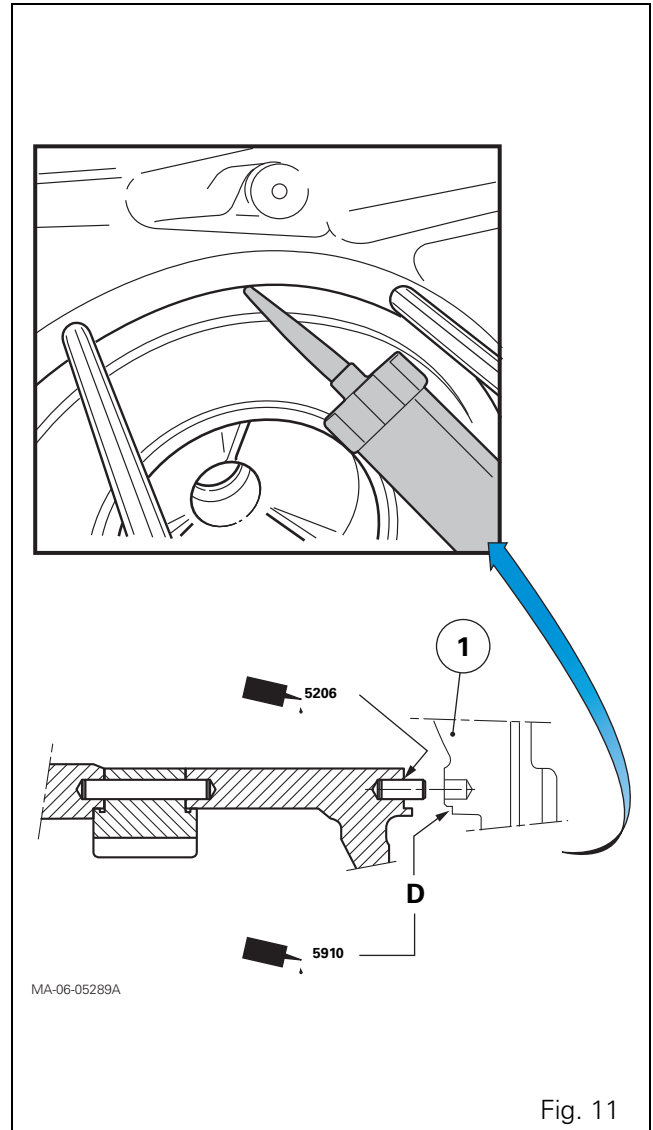

Fig. 11
14. Clean the mating faces of the trumpet housing (10) and centre housing with solvent. Remove all traces of the previous sealing product. Dry the components.
15. Evenly smear the mating face of the spacer with a sealing product (Loctite 5206 or equivalent) (Fig. 11).
16. Evenly fill angle D of the centre housing (1) (Fig. 11) with a silicone sealant (Loctite 5910 or equivalent).